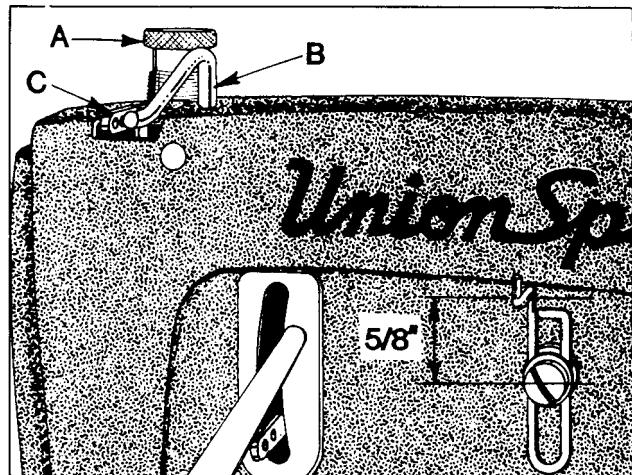

Fig. 14
Regulate presser spring regulating screw (A, Fig. 14) so that it exerts only enough pressure on the presser foot to feed the work uniformly when a slight tension is placed on the fabric. Turning it clockwise increases the pressure counterclockwise acts the reverse.
Set needle thread take-up wire (B, Fig. 14), so that its upper surface is even with the top of the holes in needle bar thread eyelet (C) when needle bar has completed its downward stroke. Lower this setting for a smaller needle thread loop, or raise it for a larger loop. Set needle thread frame eyelet (D) so that the eyelet hole is  $5/8$  inch (15.9mm) above the attaching screw.